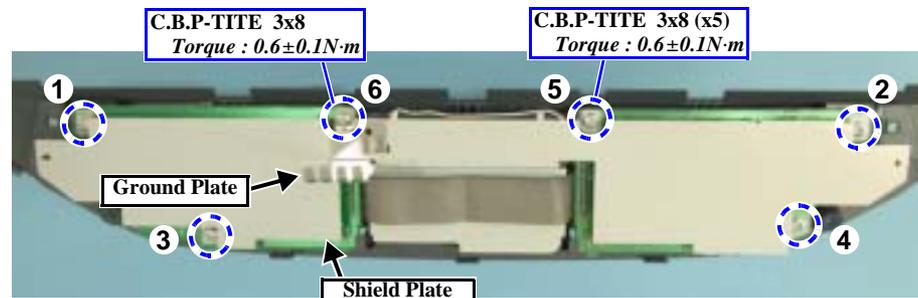

Figure 4-5. Removing the Screws (Shield Plate)
2. Remove the screws (x6) securing the Shield Plate, Panel Board and Ground Plate, and remove the Shield Plate upward. (Fig. 4-5)
- When installing the Shield Plate, tighten the screws in the order specified. (Fig. 4-5)